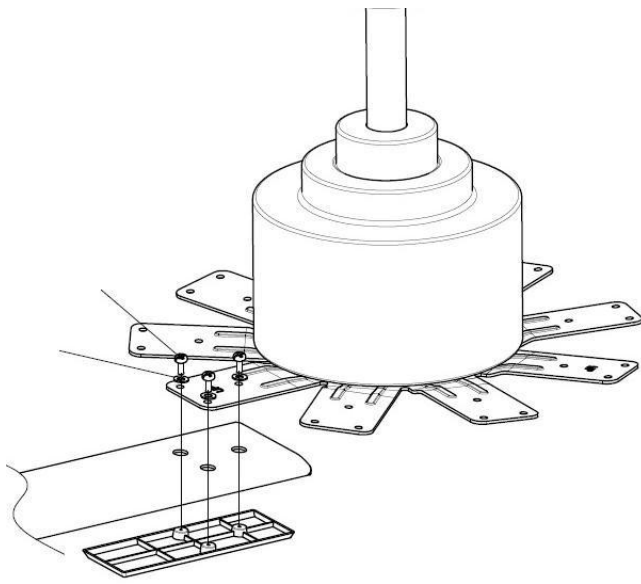

Fig. 10
- Insert the blade screws through the blade assembly in the following order—blade holder, blade and blade bracket kit. Then secure the blade to the blade holder by tightening the 3 screws (Fig. 10).